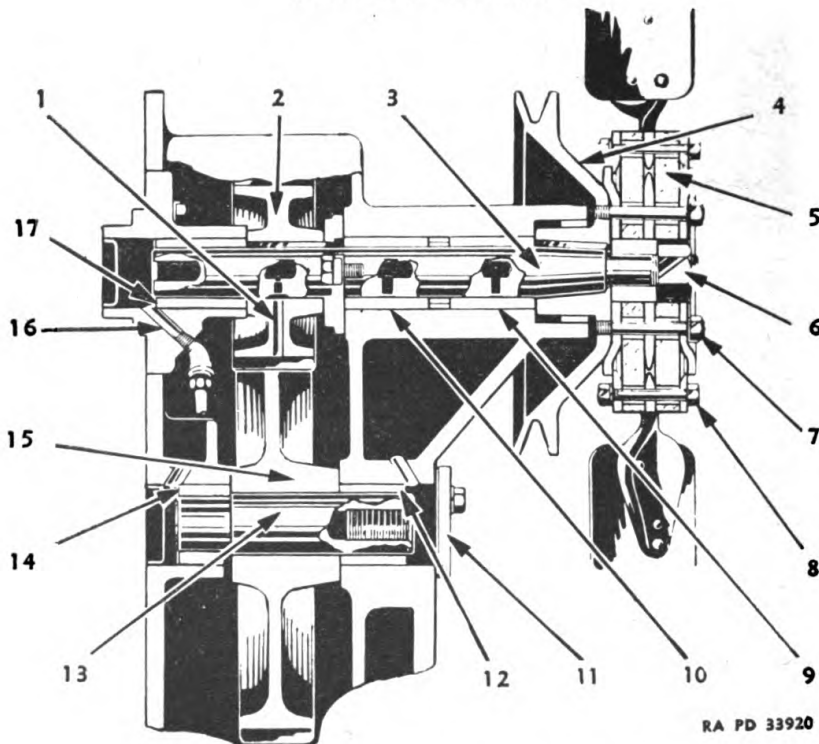

FIGURE 11.—Fan assembly—schematic.
b. Disassembly.—Remove overflow tube (2), fan shield (4), and guard (7). The top tank (1), bottom tank (9), and side plates (5) can be taken off by removing a series of capscrews at (3) and (8). New gaskets should be used in reassembly.
13. Fan (fig. 11).—*a. Removal.*—The fan is driven from the camshaft gear through an idler gear (15). Composition disks (5) in the
b. Disassembly.—Remove nuts (7) and slide fan off the hub. Disassemble fan by taking out bolts (8). If cracks appear in the composition drive disks, replace them. Nut (6) requires a $1\frac{5}{16}$ -inch wrench. Pully (4) can be pulled from the shaft by using a screw type puller and $2\frac{3}{8}$ N. F. by 5-inch capscrews in the stud holes (7). Protect the end of the fan shaft while pulling the hub so the puller screw will not distort the threads.
14. Fan drive.—*a. Lubrication.*—The fan shaft bushings are pressure lubricated by crankcase oil entering the drilled fan shaft through tube (16) (fig. 11). Oil escaping through the passage (1) in gear (2) is sprayed throughout the timing gear housing as the gear is rotated. Some of the lubricant from the fan shaft is caught in a reservoir at each end of the idler gear shaft to lubricate the idler shaft bushings.
b. Disassembly.—Should it be desired to replace the fan shaft or idler shaft bushings, the timing gear housing should be removed. With the fan and pully (4) off the shaft, the shaft (3) and gear (2) can be withdrawn from the rear of the housing. Idler shaft (13) is pressed into gear (15). The shaft is threaded for a $\frac{5}{8}$ -inch, 18-puller screw made accessible by removing plate (11).